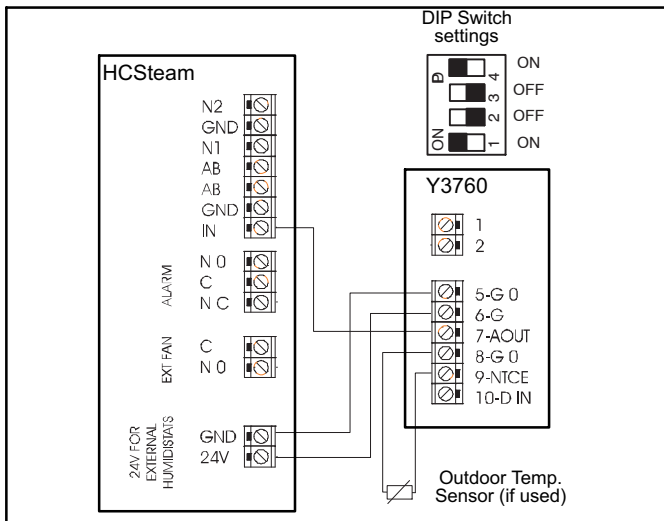

Figure 2. Connect for Modulating Operation
IMPORTANT - Be sure the connections are made as described in the following and as shown in figure 2.
- Verify DIP switch settings per figure 2.